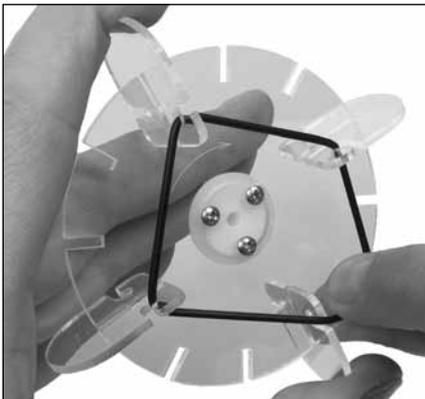
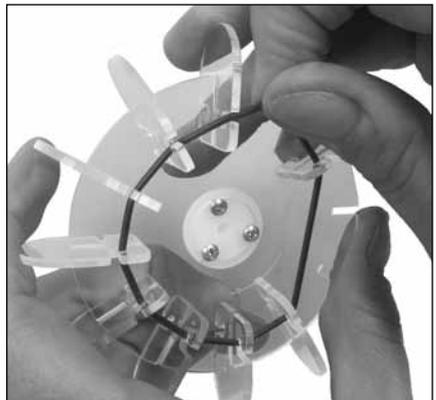

Figure 5a
Figure 5b
7. Find the 12 blades and two large O-rings. Insert the blades into the notches of Part E. An easy way to do this is to insert four blades evenly around the part (if it were a clock, the blades would be at 3, 6, 9, and 12 o'clock) (Figure 5a) and stretch one O-ring to catch the hooks on the four blades (do this only on one side of Part E). Then insert the rest of the blades one at a time, pulling the O-ring over the hook as you go (Figure 5b).